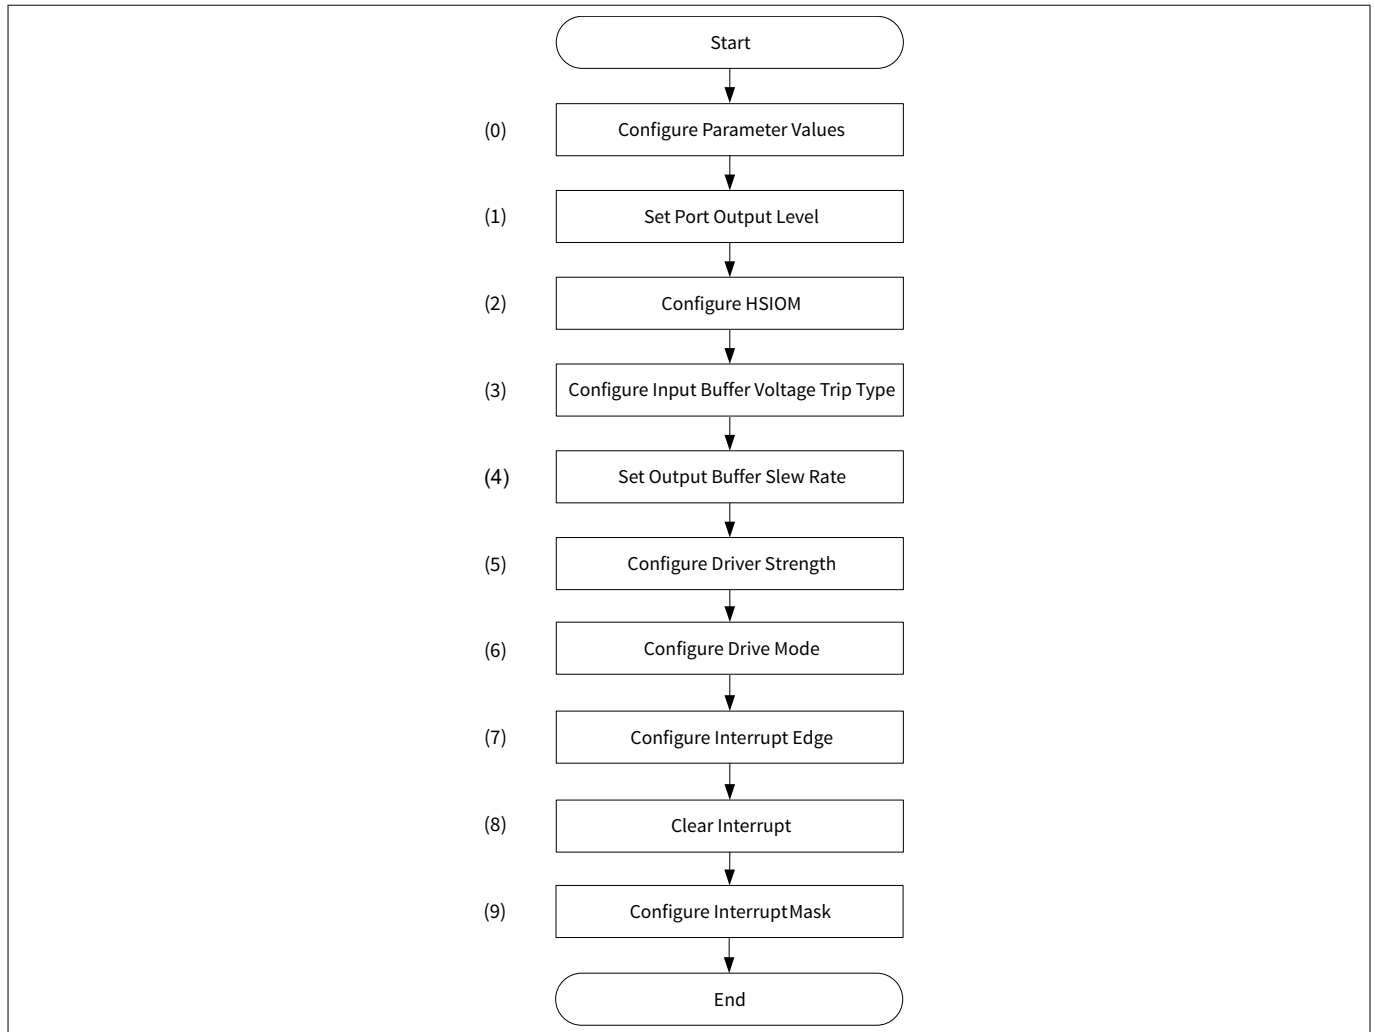

Figure 4 GPIO pin initialization procedure
Figure 4 shows the flow to initialize the GPIO pin. In this flow, (1) is performed in the configuration part, and (2) to (10) are performed in the driver part. The suffix “y” indicates the pin bit-field within the port register. The detailed settings are described in the use case.
(0) Configure the parameter values according to the system.
(1) Set the initial output state of the GPIO pin to port the output data set register (OUT_SET.OUTy). This is not required if the GPIO pin is set to input.
(2) Configure the HSIOM connection to the pin to the HSIOM port selection register (PORT_SEL0.IOy_SEL). Port becomes active (Port output) by the HSIOM register configuration.
(3) Select the input buffer to port input buffer configuration register (CFG_IN.VTRIP_SELy_0).
(4) Configure the pin output buffer slew rate to the port output buffer configuration (CFG_OUT.SLOWy).
(5) Configure the output drive strength to the port output buffer configuration (CFG_OUT.DRIVE_SELy).
(6) Configure the drive mode to the port configuration register (CFG.DRIVE_MODE3).
(7) Select the disable or enable interrupt to the port interrupt configuration register (INTR_CFG.EDGEy_SEL).
(8) Clear the pin interrupt to the port interrupt status register (INTR.EDGEy).
(9) Configure the interrupt mask to the port interrupt mask register (INTR_MASK.EDGEy).